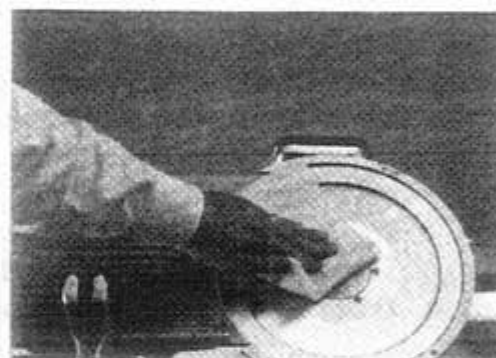

Figure 16-2
7. The knife also must be cleaned. **Carefully** wash and rinse the top and bottom of the knife by wiping from the **center of the knife outward** as indicated by Figure 16-2.